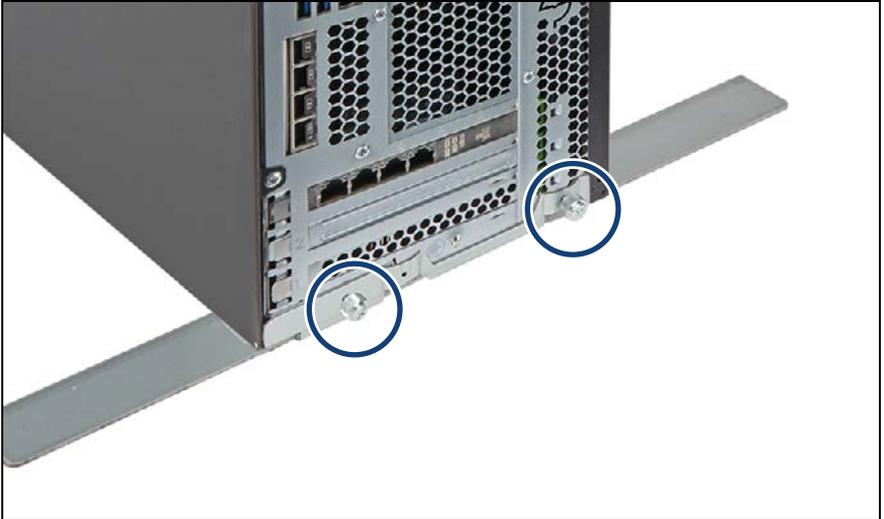

Figure 54: Installing the anti-tilt bracket (B)
- ▶ Loosen the two knurled thumb screws on the anti-tilt bracket (see figure 54).